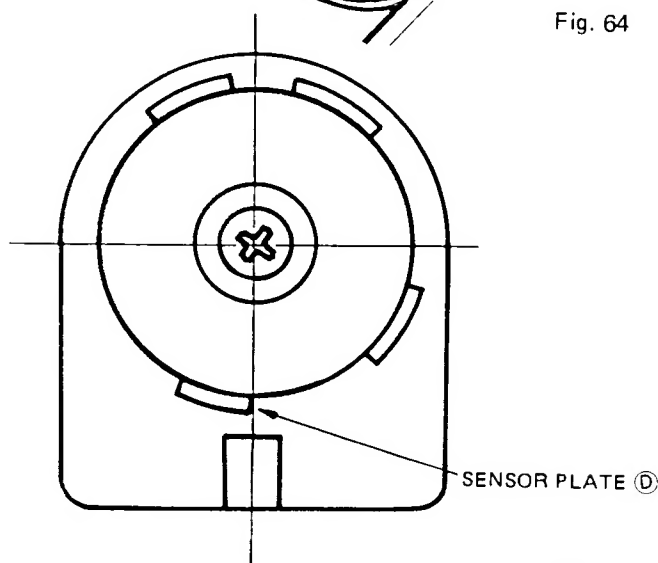

Fig. 65
10. The trimmer and tension releasing mechanisms return to their rest positions upon completion of the trimming operation and the machine stops in the upper needle position when the sensor plate ① reaches a point shown in Fig. 65.